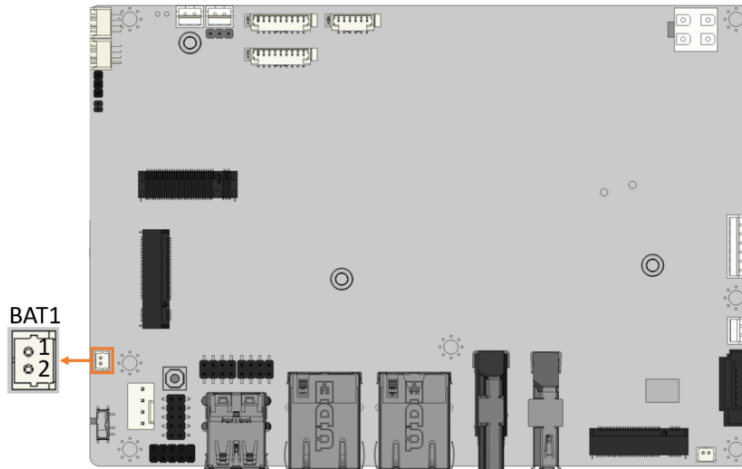

Figure 3-6: Battery Connector Location
- CN Location:** See **Figure 3-6**